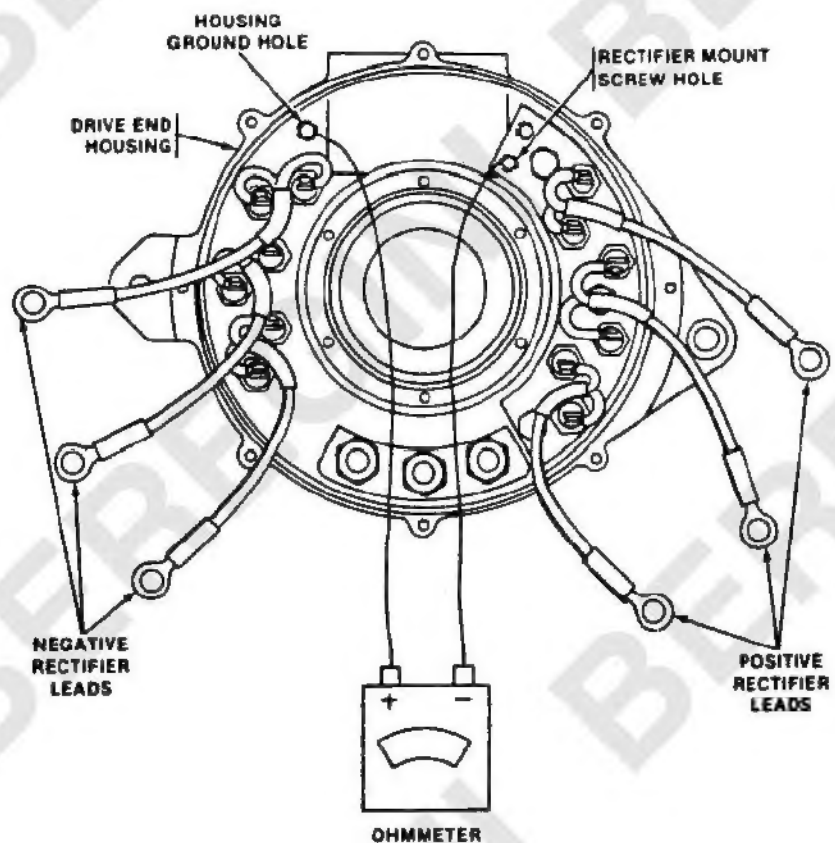

Figure 2-1. Rectifier Mount Ground Test
- Step 3. Check for ground between positive rectifier mount and generator frame in accordance with figure 2-1.